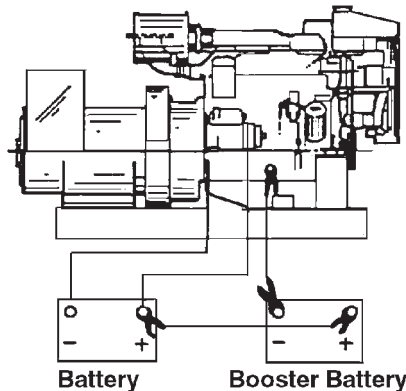

Figure 26: Booster Battery Connections
4. Then, connect negative (-) terminal of booster battery to ground on the engine block (see Figure 26).